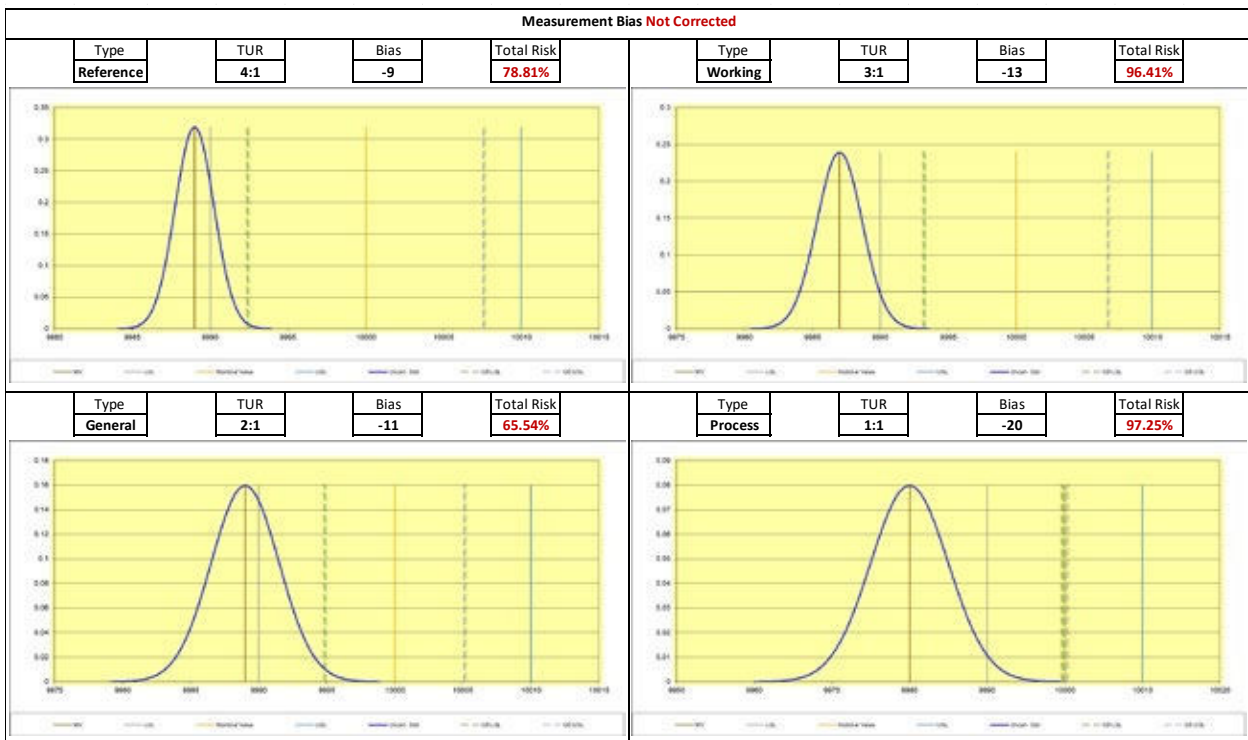
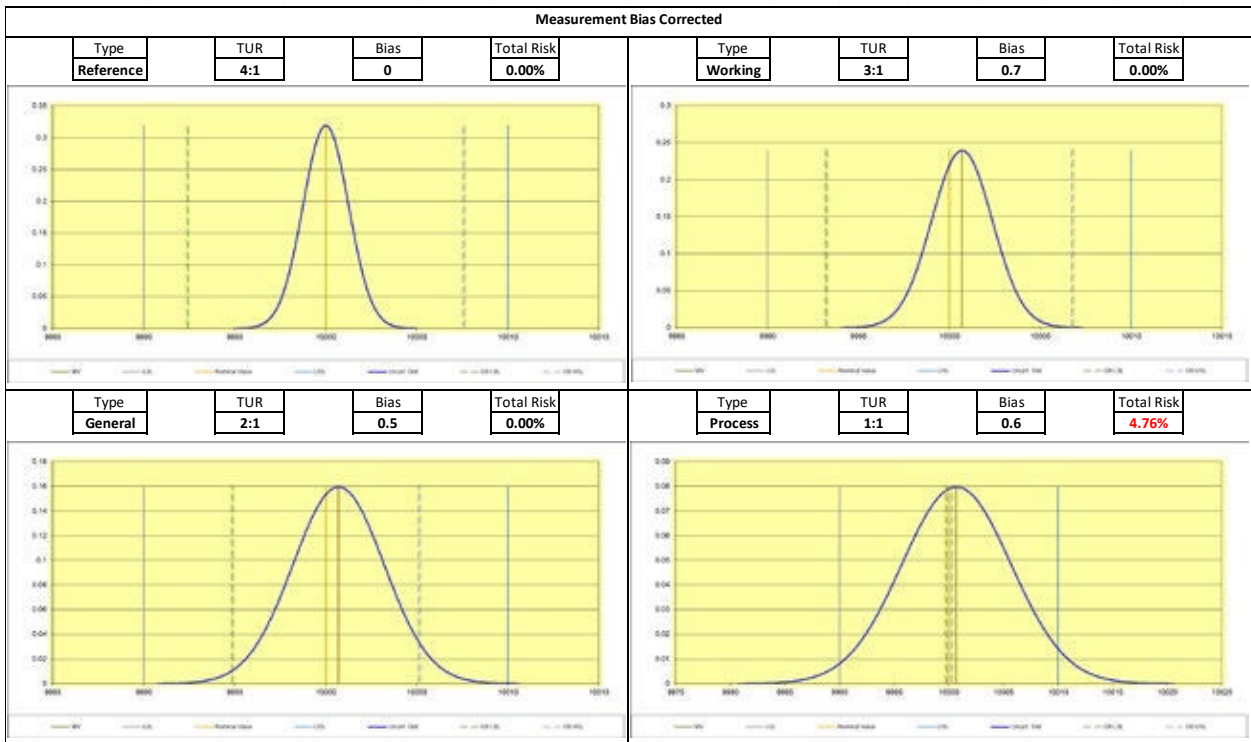

Figure 8. Randomly Generated Differences in **not correcting for bias** total risk graph.
Figure 9. Randomly generated differences in correcting for bias total risk graph.
If Primary Standards calibrate the Reference with a 58.79:1 TUR (shown in Figure 1), the total risk is 0.0 %. When the next level uses this Reference, if they correct for bias, the risk with a 4:1 TUR is 0.0 %, as shown in Figure 9. If they do not correct for the bias, as shown in Figure 8, the risk is 78.81 %. Randomly generating numbers and **not correcting** for bias at a 2:1 TUR, the total risk becomes 65.54 %, compared to
0.0 % when bias is corrected in Figure 9.
Figure 9 shows randomly generated numbers assuming each tier from the Reference tier to the General calibration tier is correcting for bias. In each scenario, the measurement risk is drastically different.